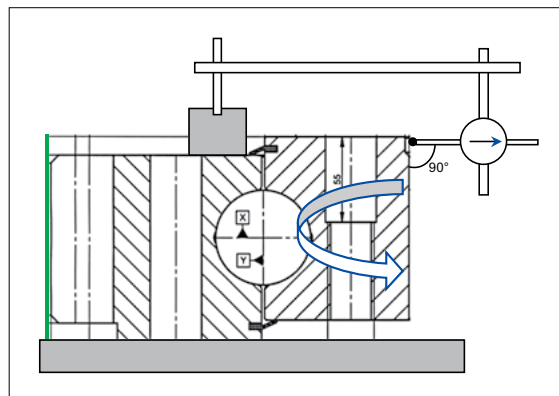

Fig. 4
- 8.1.1 Place the magnetic base of the dial gauge on the fixed ring. The feeler pin is placed in the pilot diameter (See fig.4).